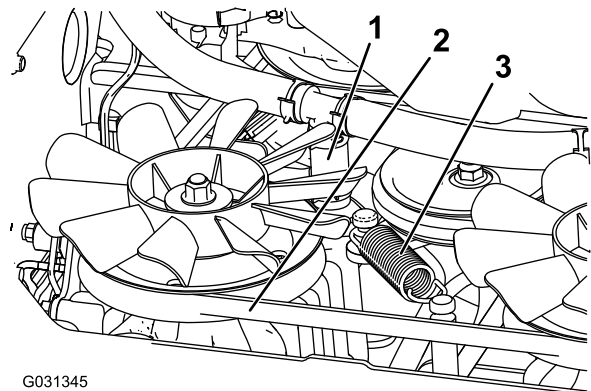

Figure 71
5. Remove the lower hydraulic hose (Figure 71).
6. Remove the tension spring (Figure 71).
7. Remove the deck belt from the clutch and clutch stop (Figure 71).